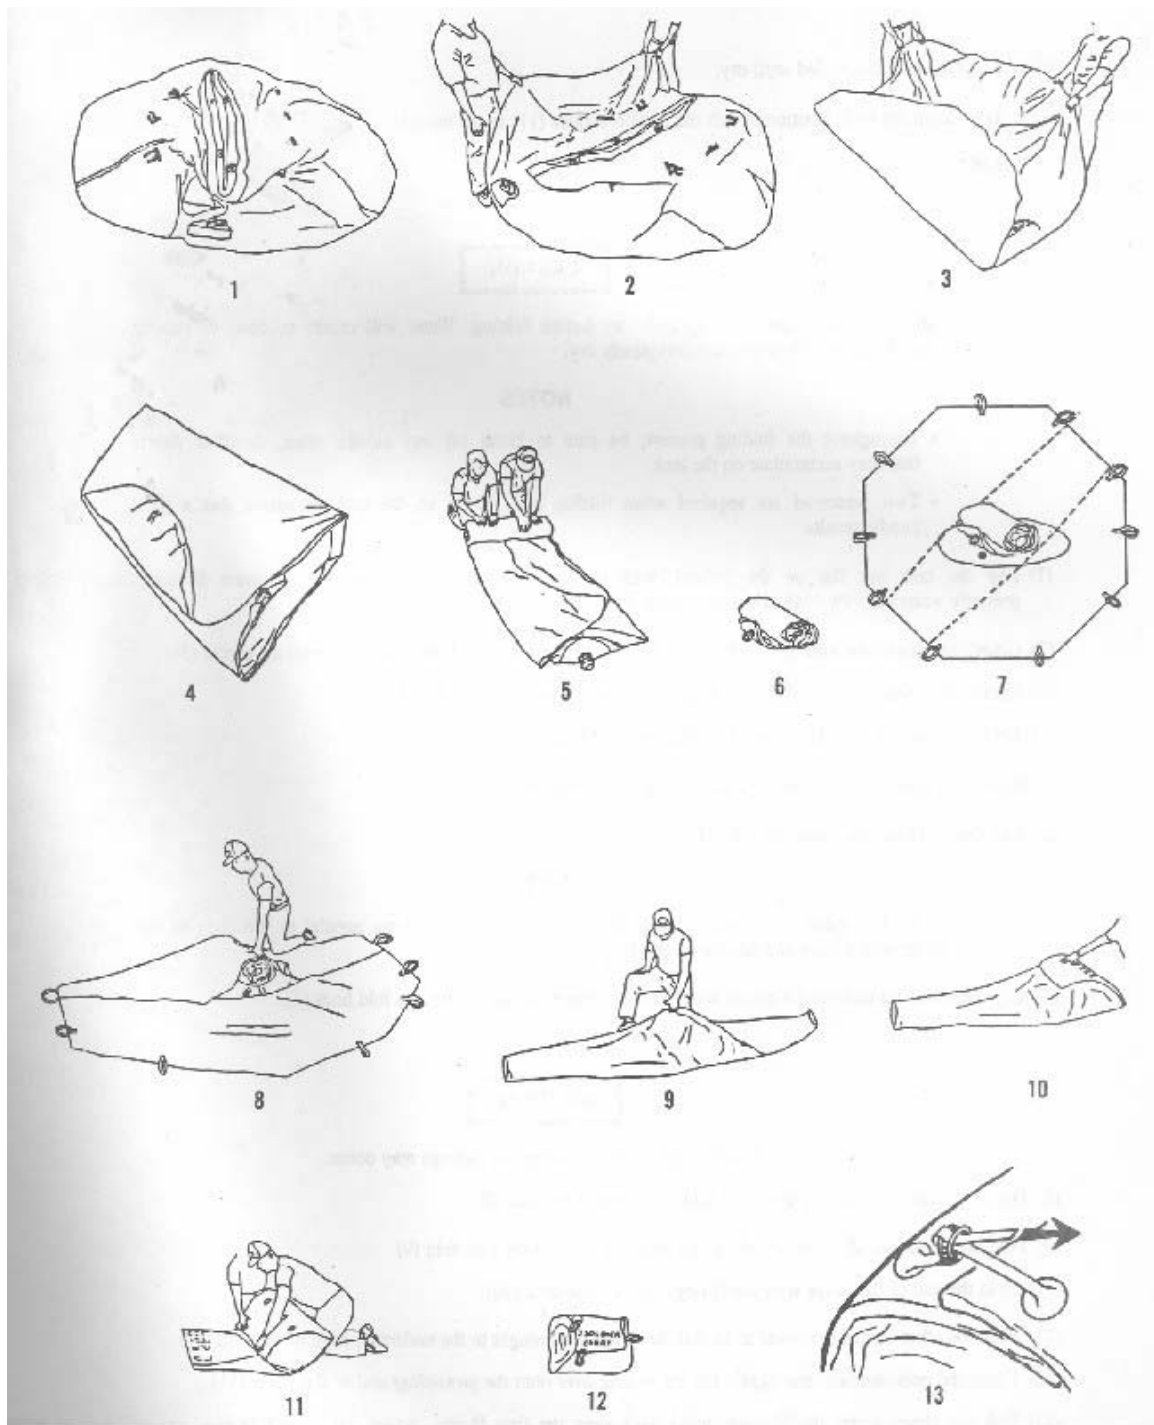

Figure 3-4
1. 1. Prepare a location close to the work area for the tank assembly (12) by removing any sharp or pointed objects that might pierce the tank.
2. Position the tank and its components (See Figure 3-4 for steps a, b and c.
- g. Using the inside lift handles (11) suspend the tank inside out.
- j. Take down the tank; position it with the handle-toggles (10) to the outside.
3. Fold the tank for movement. (See Figure 3-4).
- b. Align holes on header assembly with holes in roof portion of arch (See Figure 3-4).
- (1) Secure in place with hitch clip (3) pin.
- (2) Repeat the same procedures for other side of header.
- c. Start constructing the frame by joining two assembled arches (4) with purlins (1).